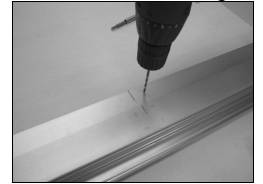

Fig. 5
- E. Use the appropriate drill head for perforation and assemble the front bracket, taking care to tighten all screws well (Fig.5 and Fig. 5bis).
- E. Use an appropriate size of drill head for perforation and assemble the front bracket, taking care to fix the screws securely into position (Fig. 5 and Fig. 5bis).
Fig. 5 bis